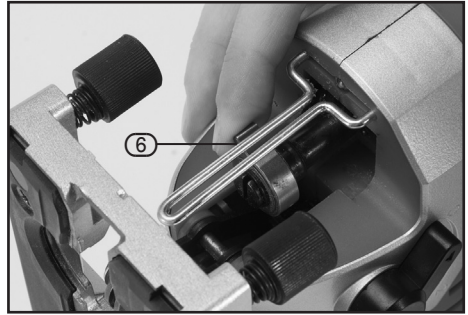

FIG.1
8.1 BLADE INSTALLATION AND REPLACEMENT – FIGS.1–2
- Before installing the jigsaw blade, make sure that the blade clamp lever (6) is in the released position.